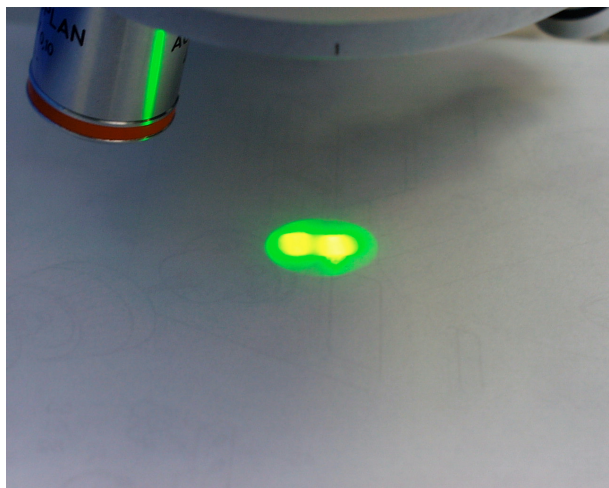

Fig. 2-20 Focal spot image without adjustment guide on mechanical stage
- Attach the HBO 103 illuminator to the microscope stand as described in Section 2.1.12 (2).
- Use adjusting screws (2-17/1 and 3) to set the brighter focal spot in accordance with Fig. 2-20.
- Use adjusting screws (2-17/2 and 5) to set the darker focal spot in accordance with Fig. 2-20.